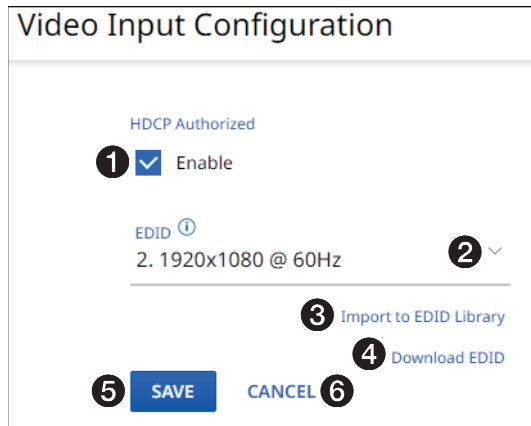

Figure 14. Video Input Configuration Dialog Box
If you change any of the settings in the **Video Input Configuration** dialog box (see figure 14, ❶ through ❹), the **Save** button (❺) becomes selectable. Click **Save** to take changes or **Cancel** (❻) to abandon them. Clicking either button closes the dialog box.